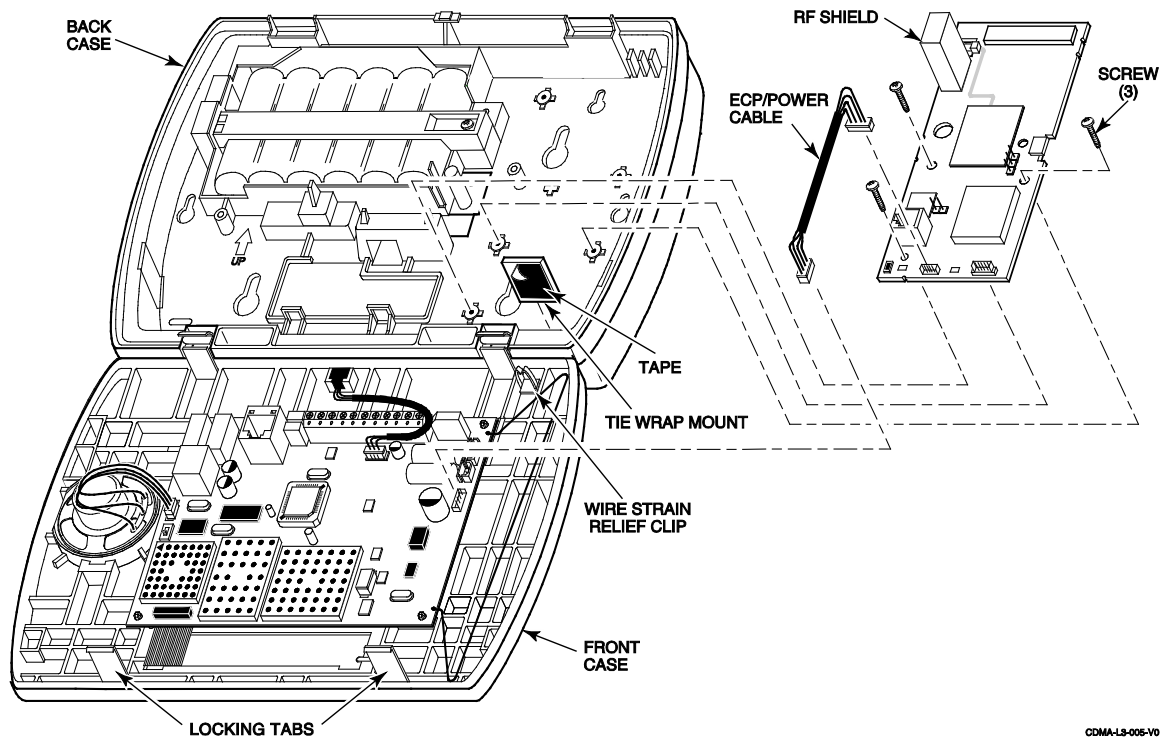

Figure 3 – Installing the Module
2. Release the control's front case assembly from the rear case by depressing the two locking tabs at the top of the unit with the blade of a medium size screwdriver (refer to Figure 3).
4. Install the module into the control's back case and secure it with the three provided screws. Refer to Figure 3.
5. Remove the backing from the tape on the provided tie wrap mount. Install the tie wrap mount in the lower right corner of the back case as shown in Figure 3.
8. Secure the wiring with the provided tie wraps as shown in Figures 3 and 4 to ensure that the cables do not interfere with the antenna.